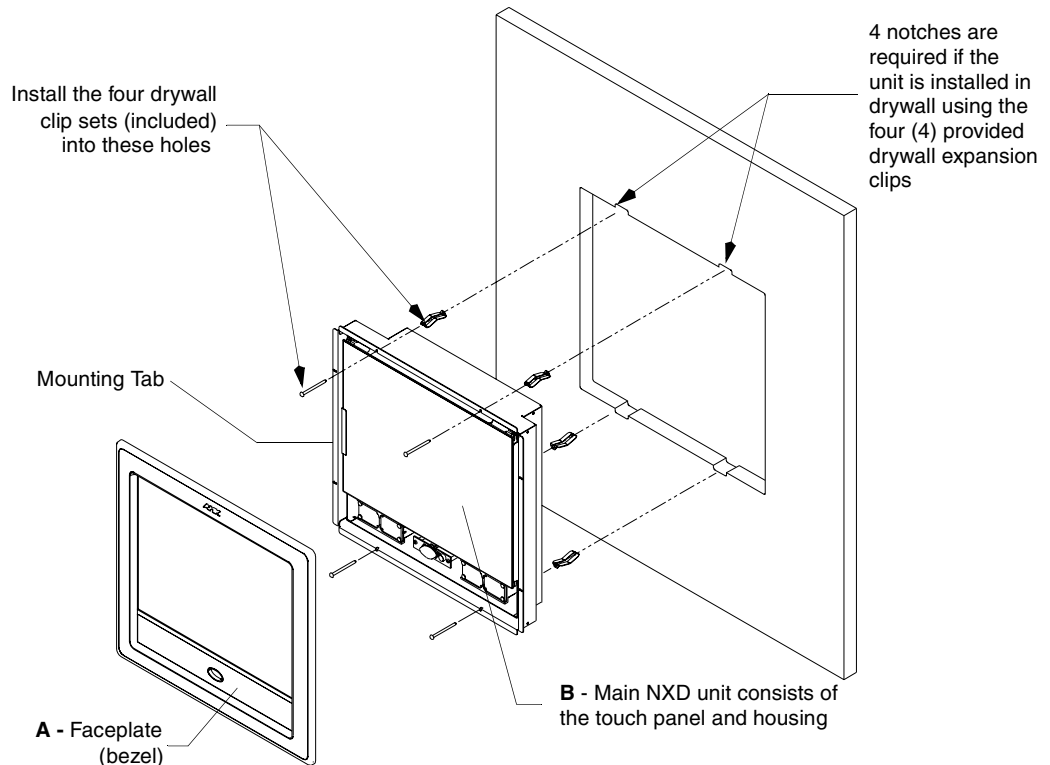

FIG. 42 Wall Mount panel (NXD) installation configuration for drywall surfaces
11. Place the magnetic faceplate (A in FIG. 42) back onto the main NXD unit (B in FIG. 42). *Make sure to align the Microphone, Light, and PIR Motion sensor locations to their respective openings on the front bezel/faceplate.*